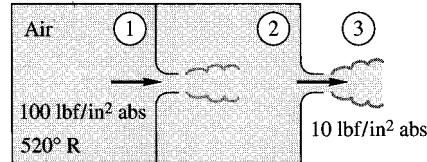

Fig. P9.75
**9.75** A double-tank system in Fig. P9.75 has two identical converging nozzles of 1-in2 throat area. Tank 1 is very large, and tank 2 is small enough to be in steady-flow equilibrium with the jet from tank 1. Nozzle flow is isentropic, but entropy changes between 1 and 3 due to jet dissipation in tank 2. Compute the mass flow. (If you give up, Ref. 14, pp. 288–290, has a good discussion.)